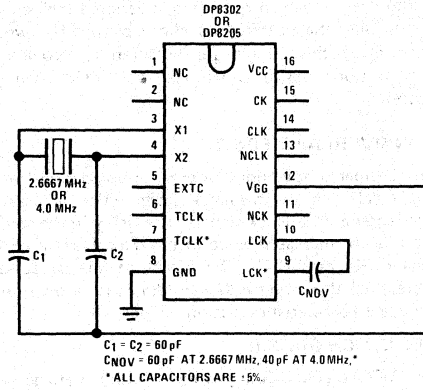
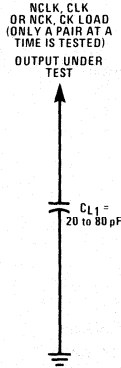

Figure 3.
Figure 4.
- The test conditions for measuring AC parameters are shown in Figure 3, with $C_1 = C_2 = 60\text{ pF}$, $C_{NOV} = 60\text{ pF}$ at 2.6667 MHz and 40 pF at 4.0 MHz. Load conditions for MOS clocks and TTL clocks are shown in Figures 4 and 5. Including probe and jig capacitance, $C_{L1} = 20\text{ pF}$ to 80 pF, and $C_{L2} = 40\text{ pF}$.